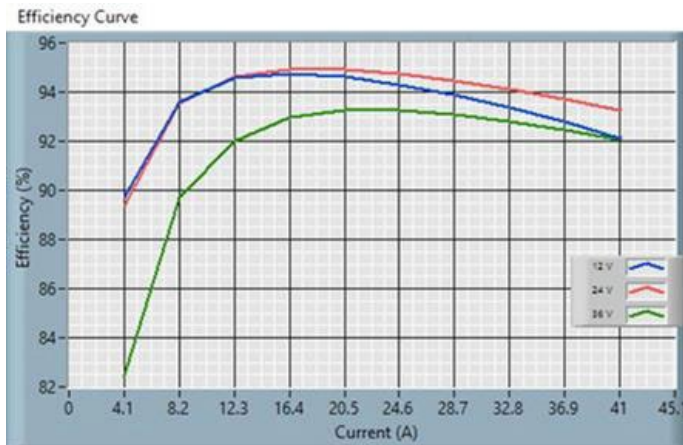

**Fig. 2:** Test setup for measuring input reflected ripple currents  $i_c$  and  $i_s$ .
**Fig. 21:** Input reflected ripple current,  $i_c$  (500 mA/mV), measured at input terminals at full rated load current at VIN = 24V. Refer to Fig. 2 for test setup. Time: 2 μs/div. RMS input ripple current is 1.235\*500mA = 617.5mA.
**Fig. 27:** Input reflected ripple current,  $i_c$  (500 mA/mV), measured at input terminals at full rated load current at VIN = 24V. Refer to Fig. 2 for test setup. Time: 2  $\mu$ s/div. RMS input ripple current is  $1.359 \times 500mA = 679.5mA$ .
**Fig. 33:** Input reflected ripple current,  $i_C$  (500 mA/mV), measured at input terminals at full rated load current at VIN = 24V. Refer to Fig. 2 for test setup. Time: 2  $\mu$ s/div. RMS input ripple current is 1.098\*500mA = 549mA.